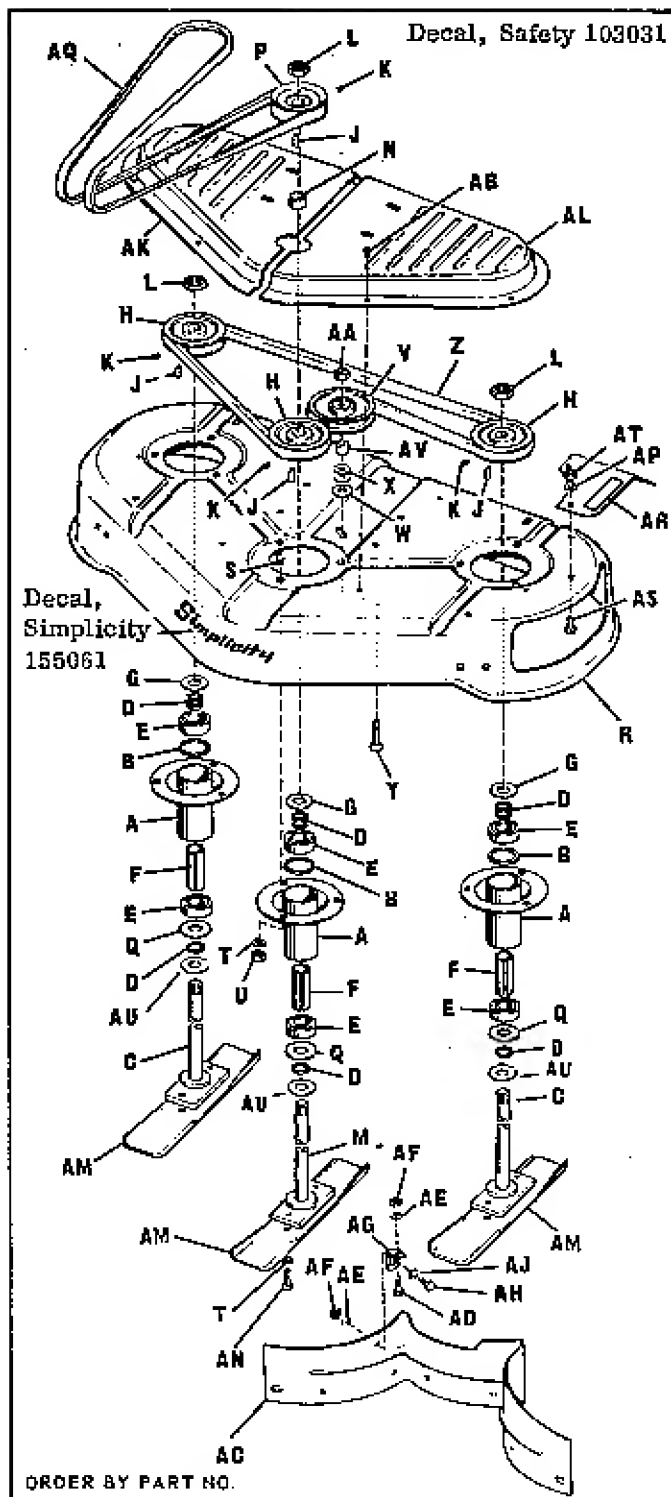

FIGURE 3
2. Loosen hex nut (fig. 3) of the right hand belt tightener. Disengage power take-off lever (fig. 3). Place transmission in gear. Block rear wheels in front and back to avoid movement. Raise front end and leave machine rest on rollers of 32" mower. The front of Wonder Boy will remain in a raised position. Take necessary precautions to avoid movement of unit.
Reposition the right hand belt tightener by moving it forward and placing tension on the belt. Secure the hex nut (fig. 3).
3. Attach the transport hook to the stud on the tractor frame as shown, (Fig. 3). This should be rotated up out of the way when not in use.